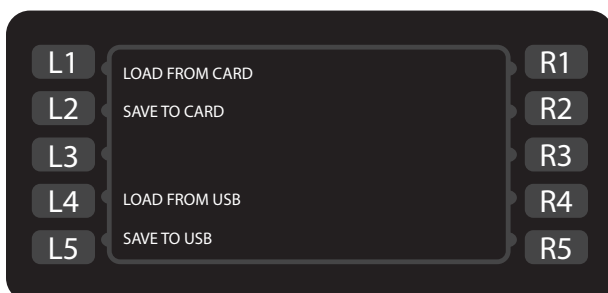

Figure 19: Load Menu Screen
From screen 2 of the INFO MODE, press the R1 soft key to access the “Load Menu” screen (Figure 19).
2. Press the L1 soft key to load from a smart card, or the L4 soft key to load from USB* (Figure 19).
2. Press the L2 soft key to save to a smart card or the L5 soft key to save to USB** (Figure 19).